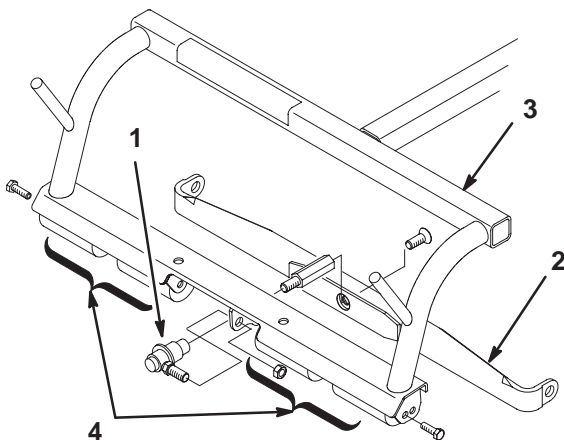

Figure 1
1. Remove the locknut securing the pull arm ball socket to the carrier frame (Fig. 1). Remove the pull arm.
2. Remove the capscrews securing the ends of each anti-scalp roller shaft to each end of the carrier frame (Fig. 1).